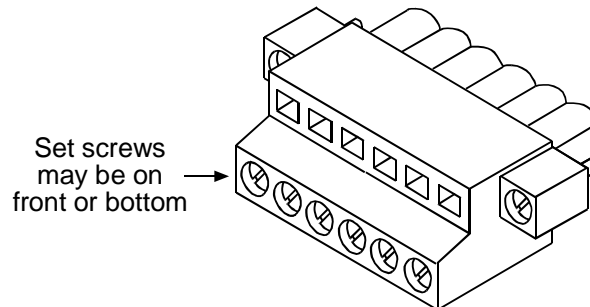

Figure 6-15. Alarm Output Connector
1. Open package containing alarm output connector (see Figure 6-15).